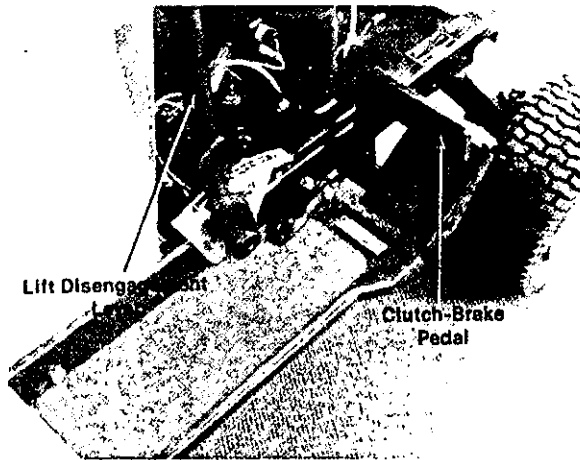

FIGURE 12.
e. **Clutch-Brake Pedal.** The clutch-brake pedal is located on the right hand side of the rider and is operated by depressing it with your right foot. See figure 12.
f. **Lift and Disengagement Lever.** Pulling it all the way back and locking it disengages the blades. The engine will not start unless the lift and disengagement lever is in the disengaged position. See figure 12.